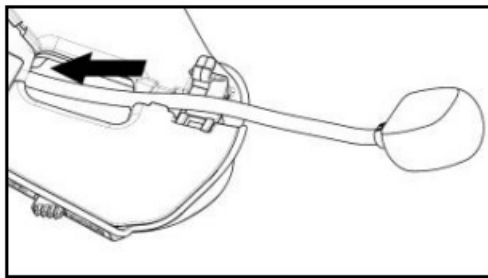

Fig. 16
- Position the microphone at the desired length, sliding the excess portion inside the cheek pad lining (Fig. 16).